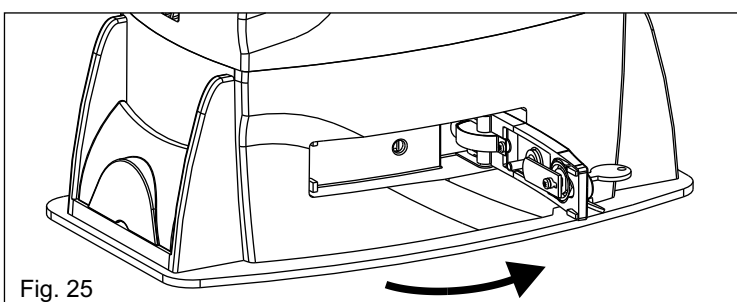

Fig. 25
- Pull the release lever until it stops, about 90° approximately (Fig. 25).